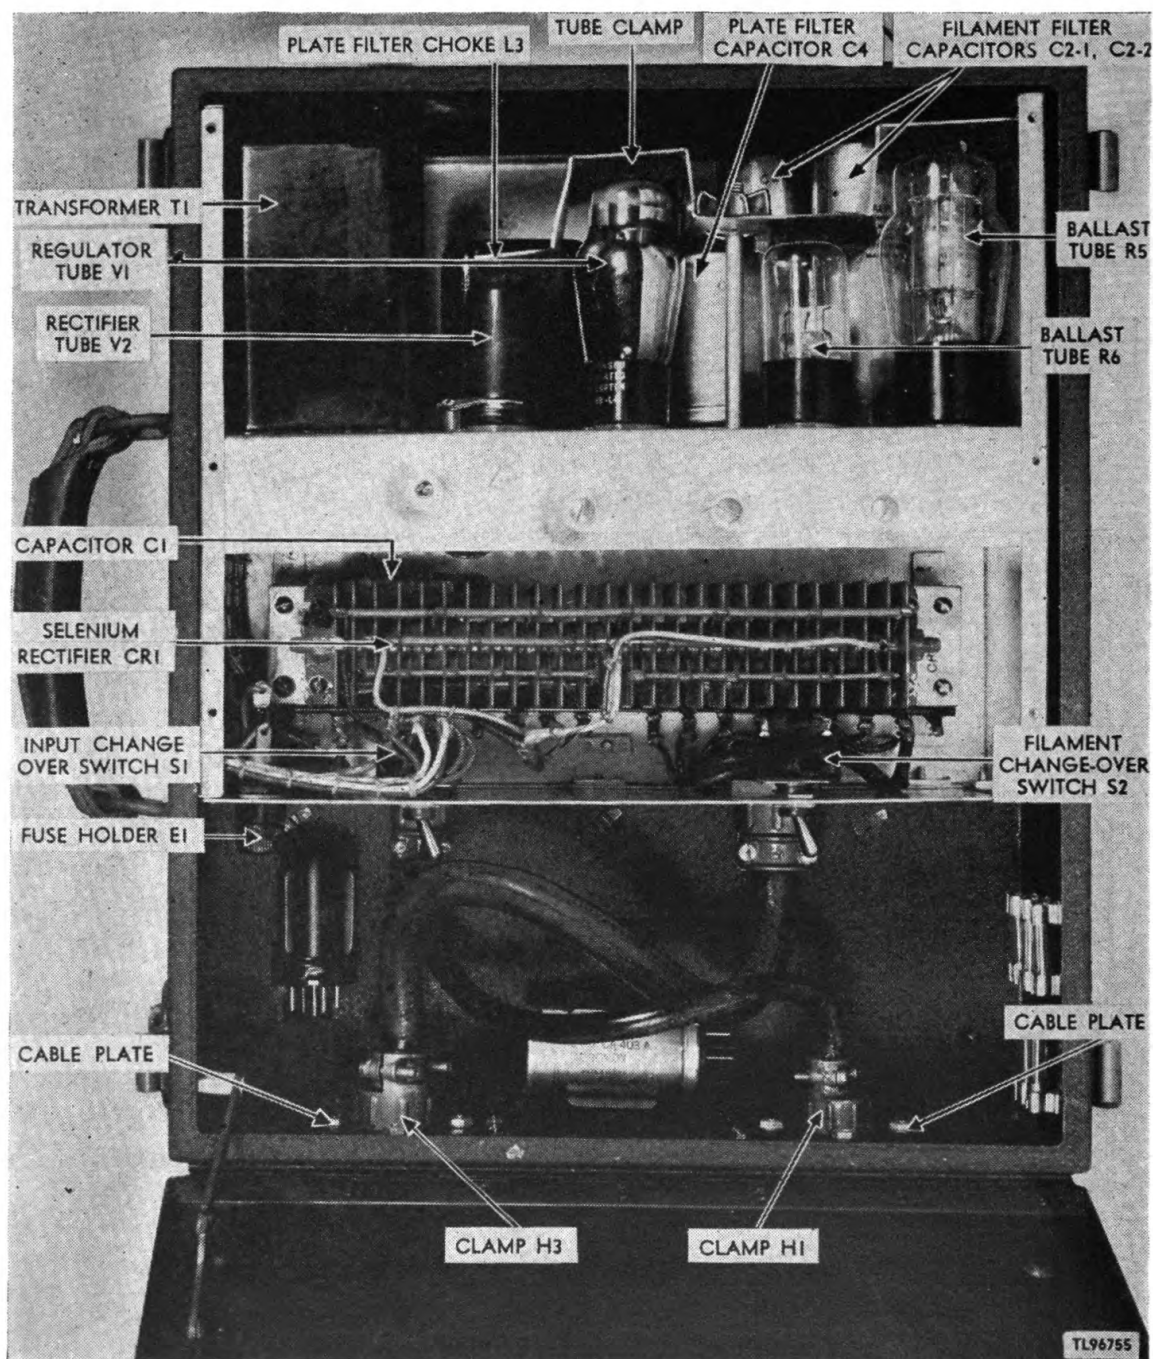

Figure 5. Rectifier RA-120, case cover open, chassis cover removed, top view.
a. Open the case cover, remove the chassis cover, and check the condition of the tubes (fig. 5).
a. Inspect (I). Inspect the input and output cords for excessive wear or deterioration of the rubber. Check the input and output connectors for excessive oxidation and for tightness of the connections. Check the screws on the exterior of the carrying case for tightness. Inspect the finish of the carrying case for chipping or wear of the paint.
b. Tighten (T). Tighten any connections or screws which inspection has revealed to be loose.
c. Clean (C). Clean the connector contacts with a cloth, or if necessary, with #000 sandpaper. Clean the finish of the carrying case and touch up any worn or chipped spots on the paint.
19. ITEM II—CHASSIS INTERIOR (fig. 5).
a. Inspect (I). Inspect the transformers and chokes for possible overheating as indicated by discoloration, blistering, or bulging of the parts or surface of the containers, or leakage of insulating compounds. Inspect the capacitors for leakage of electrolyte or insulating com-